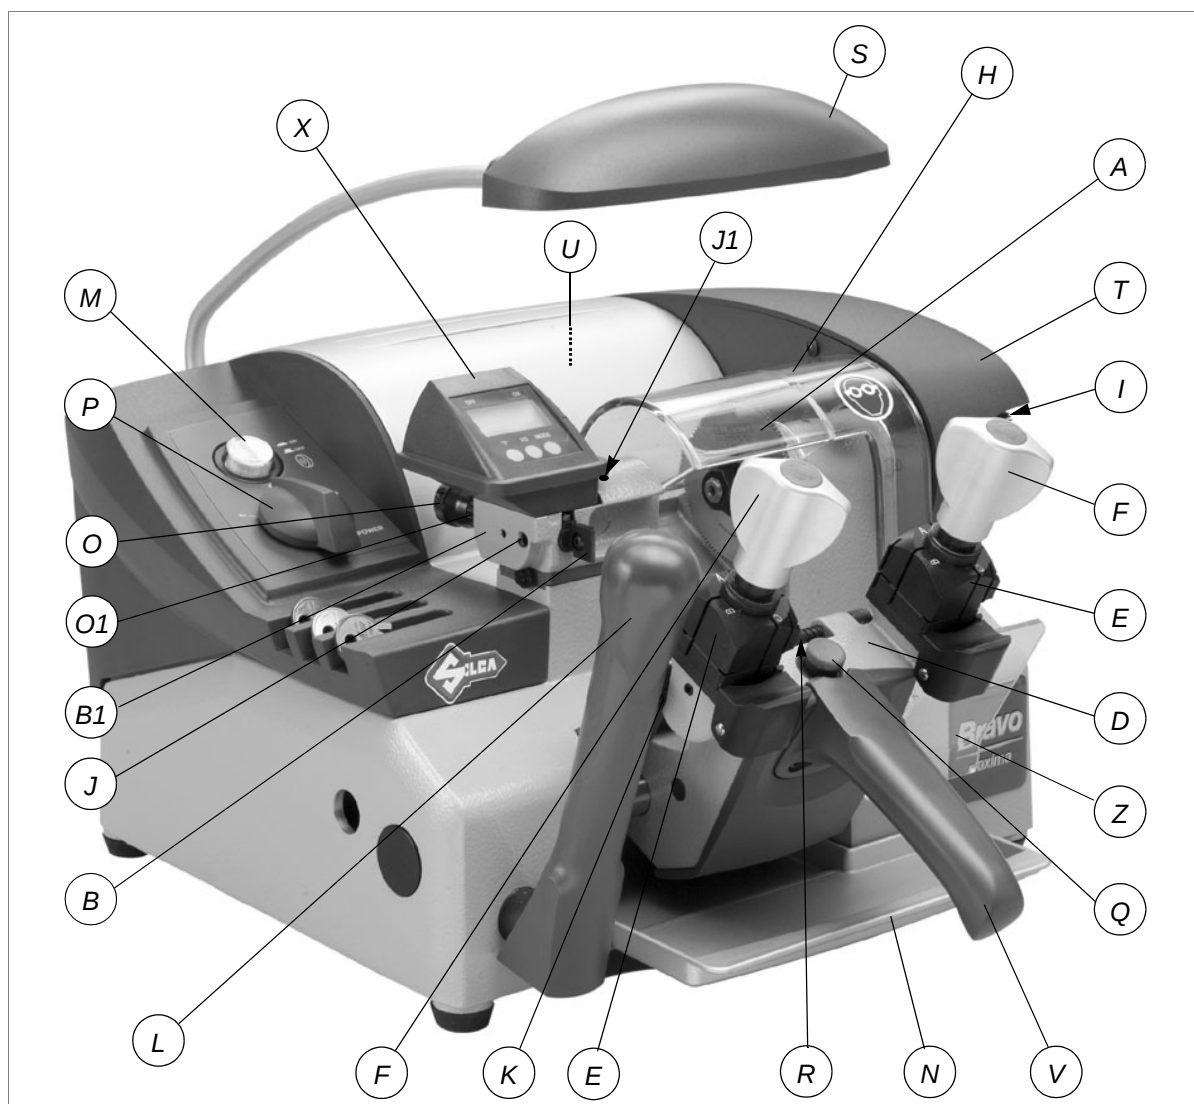

Fig. 5
The control panel with 2 controls is located on the left-hand side of the BRAVO MAXIMA key-cutting machine: the motor start-up switch (P), which also acts as speed commutator and the push button for the brush (M) (fig. 5, page 6).